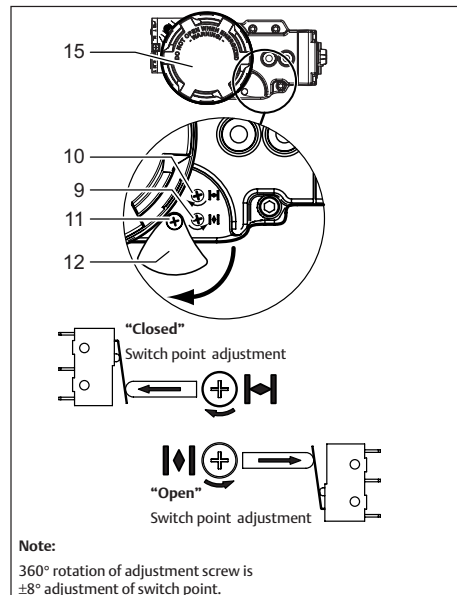

Fig. 5.3 Re-adjustment screws for "Open" and "Closed" position feedback
The QC41, QC42 and QC43 are equipped with non-intrusive switch adjustment. The adjustment screws are accessible behind a small shield in the front of the module (see fig 5.3). This means that the switch adjustment can be done without opening the module.
- In this case the top adjustment screw (see fig. 5.3), sets the switch point of the “Closed” position and bottom adjustment screw sets the switch point of the “Open” position.
Procedure (see fig 5.3):